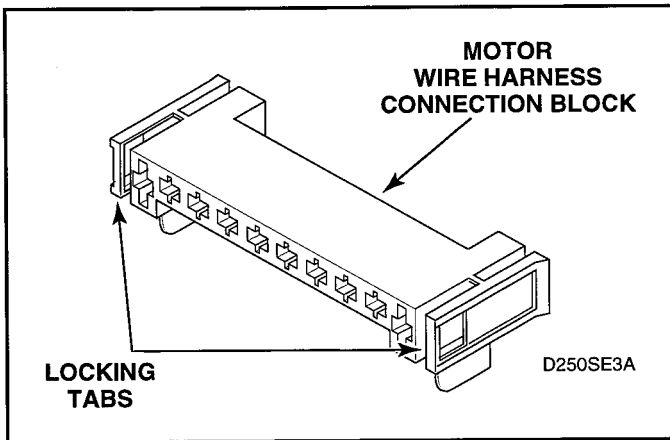

Figure 5-18
1. Disengage motor wire harness terminal block from the motor by pressing in on the movable locking tabs (located on each side of the terminal block) and pulling away from motor. See figures 5-18 and 5-19.